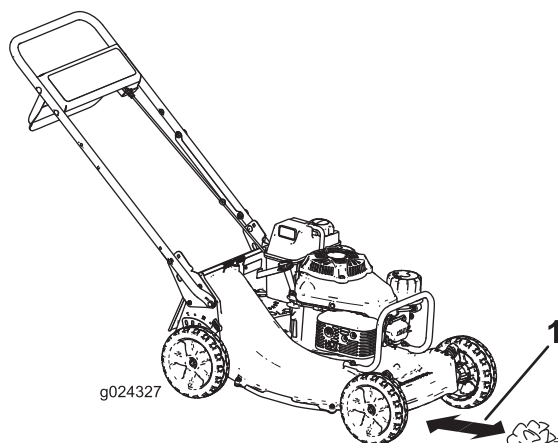

Figure 18
4. Place the newspaper ball about 13 cm (5 inches) in front of the machine (Figure 18).